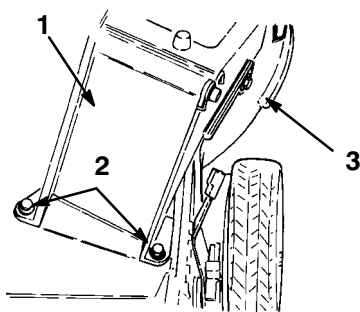

Figure 35
1. Bolt (4)
3. Position the discharge tunnel and door assembly on the lawn mower, aligning the holes in the discharge tunnel with the holes in the lawn mower (Fig. 35).